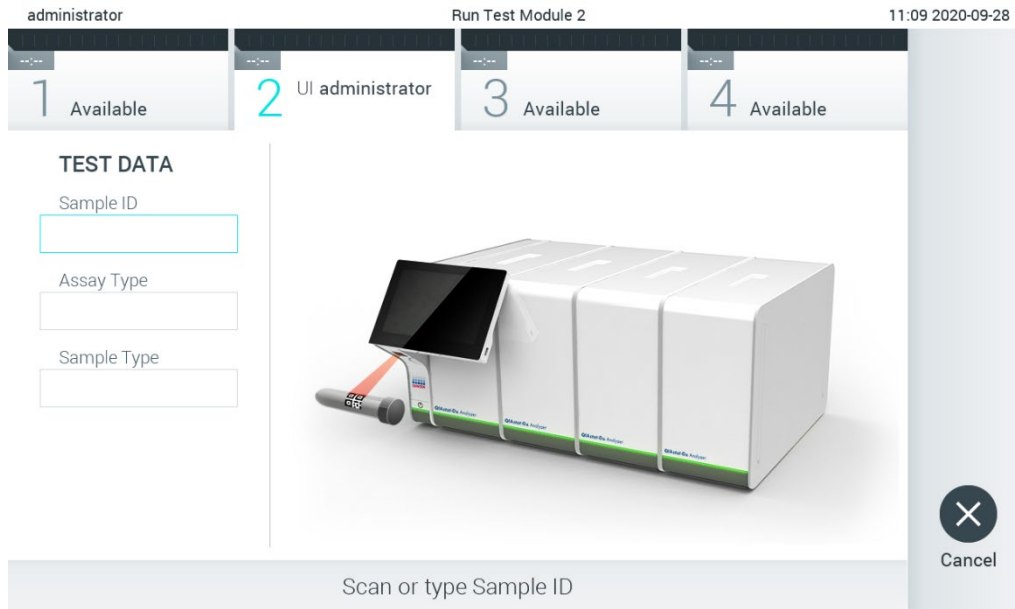

Figure 82. Scanning the sample ID bar code
2. When prompted, scan the sample ID bar code using the bar code reader that is integrated into the Operational Module (Figure 82).